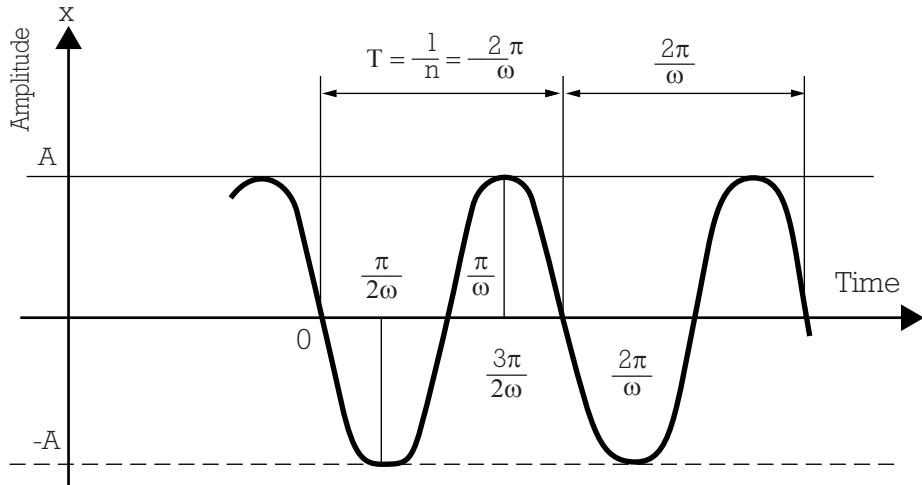

Fig. 1
- Sinusoidal vibration  $x = A \sin \omega t$  (fig.1)
The oscillation continues indefinitely with an amplitude A (as shown in Fig. 1 with  $\omega$  replaced by  $\omega_o$ ).